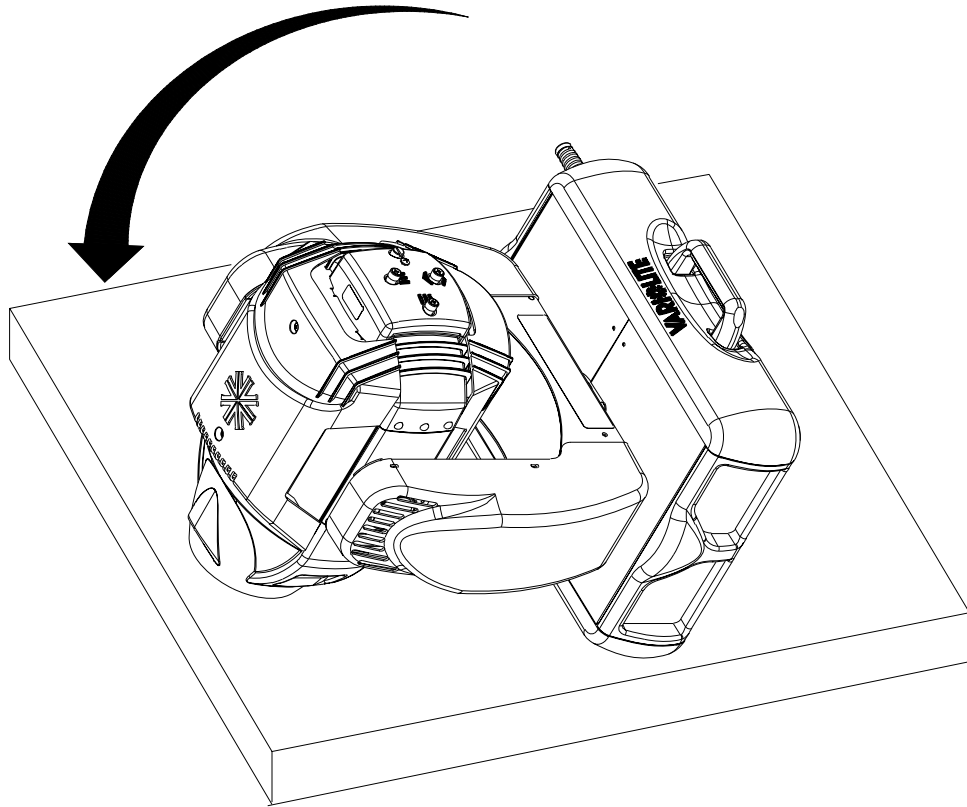

Figure 2-17: Laying Luminaire on Its Side
- Step 4. Carefully lay luminaire on its side as shown in Figure 2-17. Make sure that lens does not come into contact with any surface..